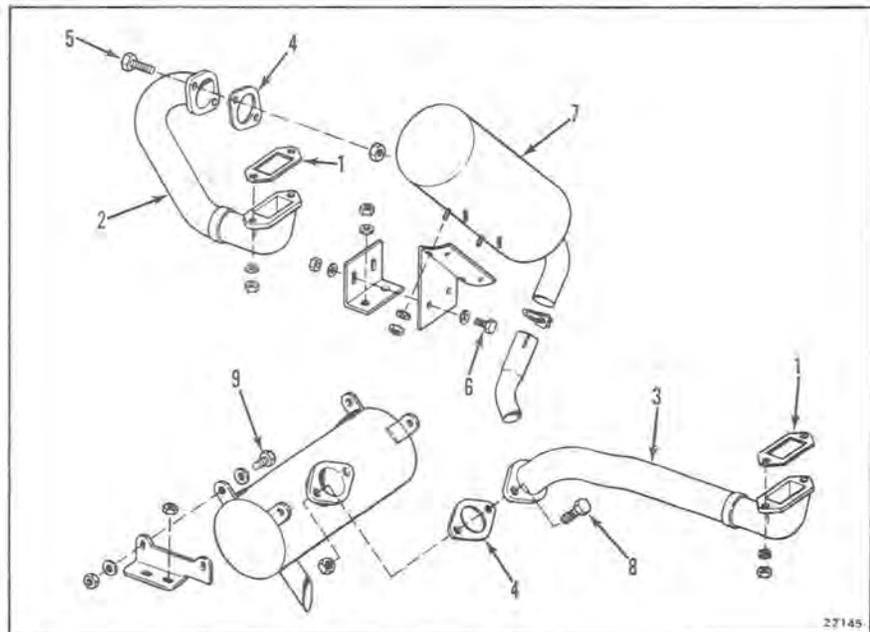

Figure 9-23
4. Remove two screws (5) and two screws (6) and remove upper muffler(7). Remove two screws (8) to disconnect lower muffler from manifold. See Figure 9-23. Remove Power Pack I engine cover.
7. Remove three screws (9) securing lower muffler. Work muffler out of well.